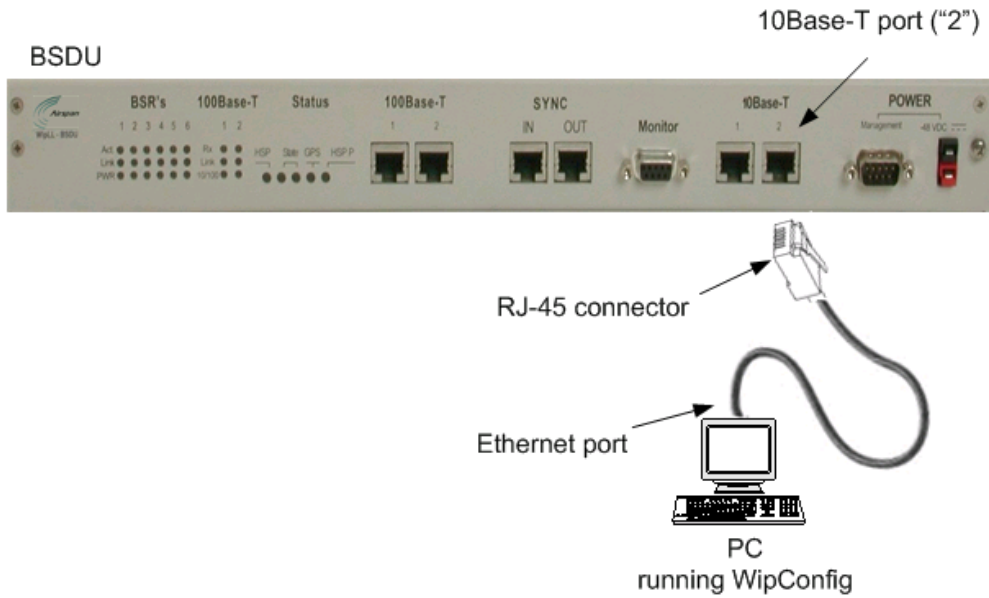

Figure 5-9: PC-to-BSDU Local Network Connection – 10Base-T Port
2. Connector the RJ-45 connector, at the other end of cable, to the BSDU's 10Base-T port labeled **2** (see Figure 5-9);